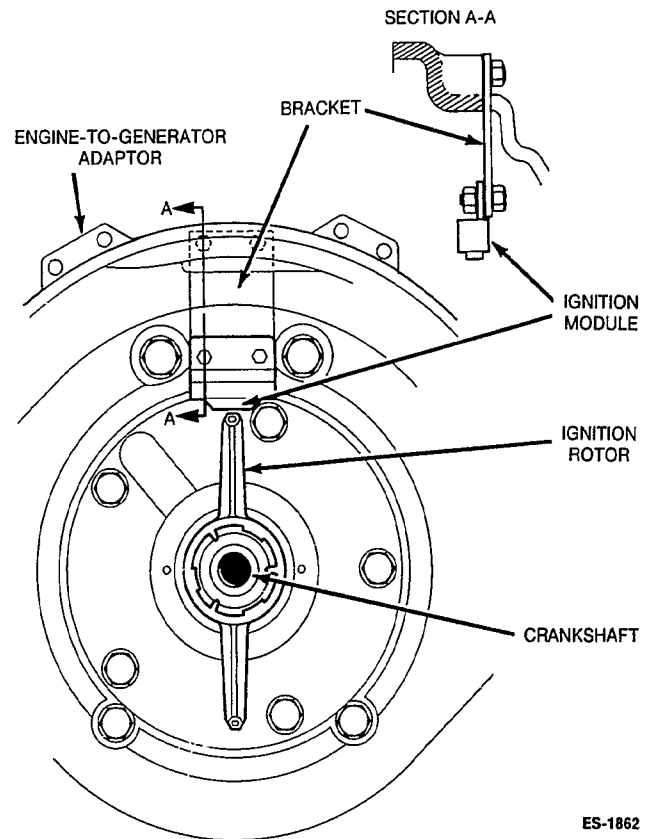

FIGURE 6-6. IGNITION MODULE AND ROTOR
The ignition module is mounted to the generator/engine adaptor, as illustrated in Figure 6-6. It is an electronic switch in the primary circuit of the ignition coil. It is switched on and off once each revolution by the rotor, sending a pulse of the proper amplitude and duration to the ignition coil to be stepped up to high voltage, to fire the spark plugs. The ignition module contains no user-serviceable parts.
4. To replace the module, perform the steps listed above in reverse order. Be sure to assemble the new module to the bracket as shown in Figure 6-6, Section A-A. The studs on the bracket must point toward the generator end of the set, when assembled and installed.